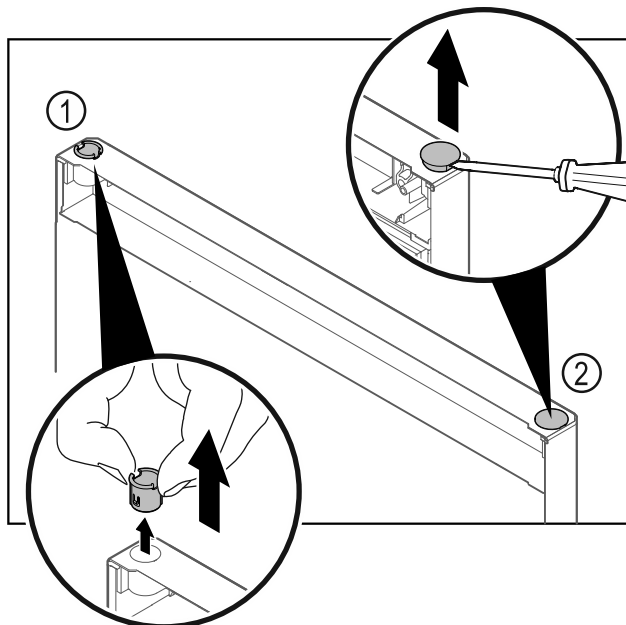

Fig. 19
- Pull out the hinge bushing Fig. 19 (1) with your fingers.
- Carefully lift the cover plug Fig. 19 (2) with a slotted screwdriver and pull it out.